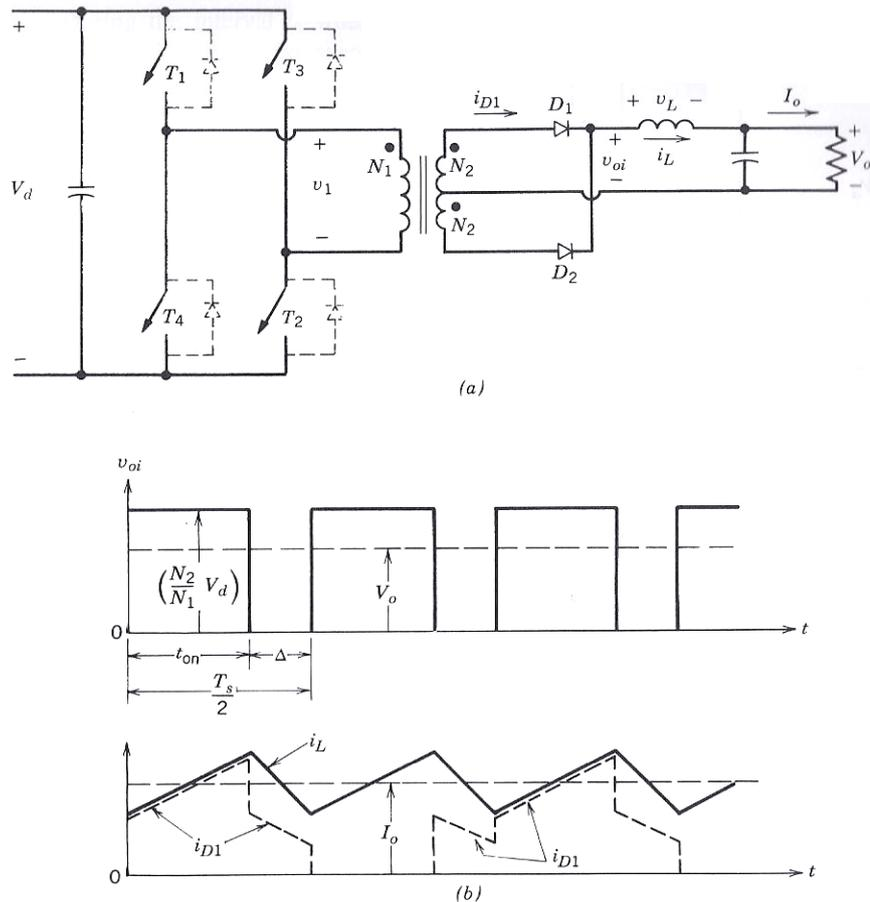

**Fig. 3: Multiple outputs**
- Multiple outputs can be created by having multiple windings (in addition to the secondary winding), as shown in Figure 3.